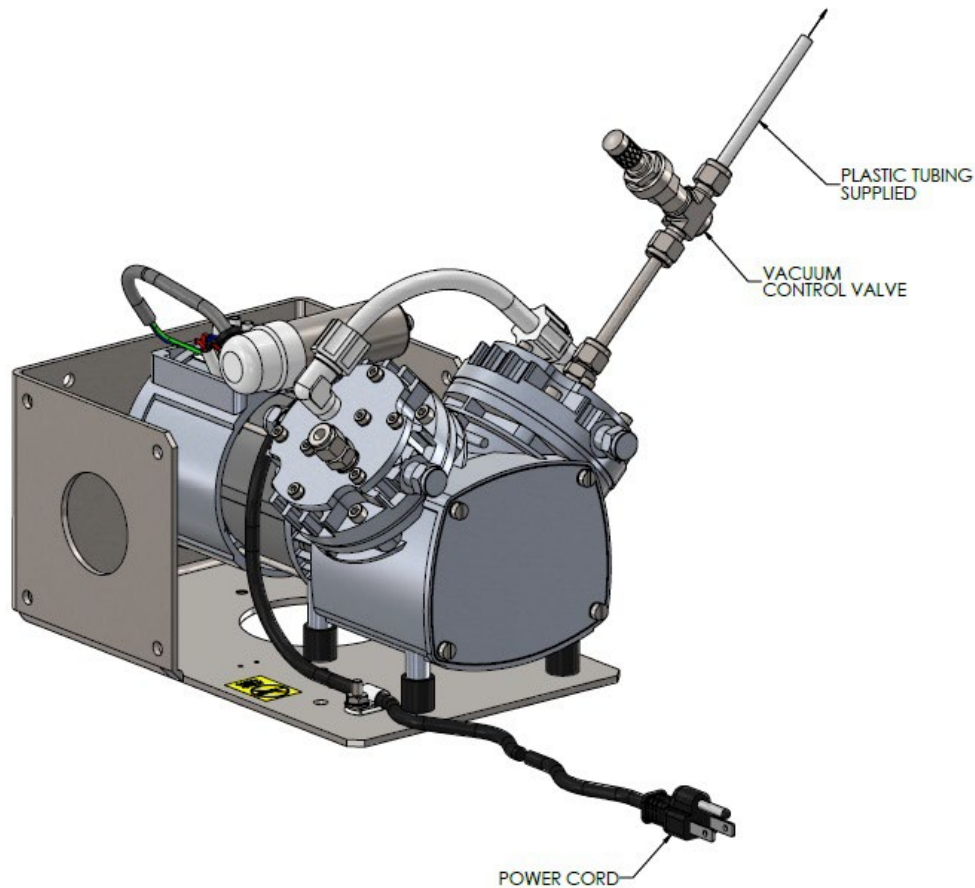

Figure 13: Vacuum Pump Assembly
6. Connect a line from the moisture sample outlet to the pump vacuum control valve (see **Figure 13**).